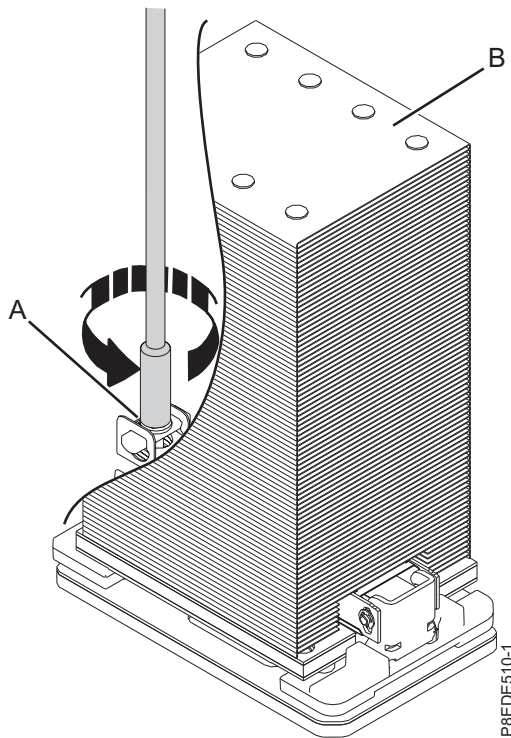

Figure 3. Removing the heat sink
- a. Loosen the heat sink actuation screw by turning the supplied 5.5 mm nut driver (part number 43W3032) counterclockwise (**A**) until the screw becomes loose and moves freely as shown in Figure 3 on page 6.